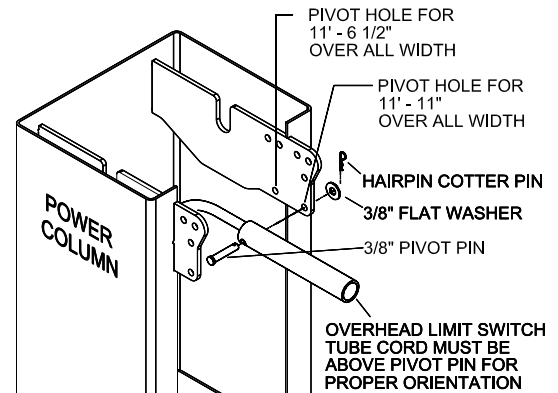

Fig 4a – Overhead Limit Switch Sub-Assembly
- 13) Install Overhead Limit Switch to **REAR** of Power Column using (1) 3/8" pivot pin, (1) 3/8" flat washer and (1) hairpin cotter pin as shown below. Switch **MUST** pivot freely on pin for proper function. **NOTE** switch tube cord is to be oriented **above** pivot pin as shown in **Fig 4a**. Leave switch cord hanging at this time.